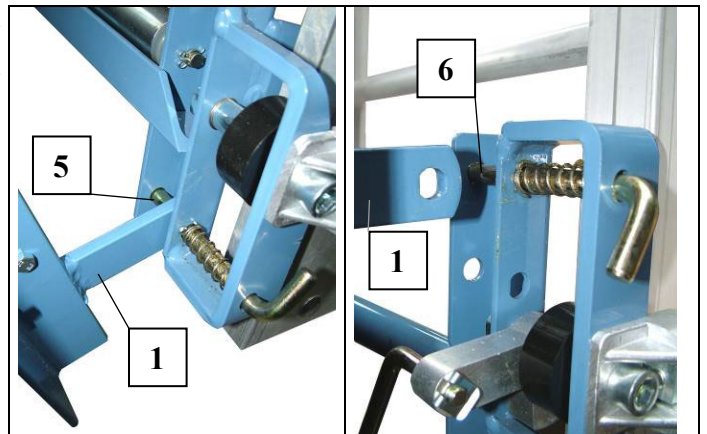

Fig. 43 Assemble universal platform
- Hook vario-platform (like the universal platform) to the lower spring catches on the sliding carriage and secure on both upper spring catches (see Fig. 43).
- Remove support latch (4).
- Pull telescopic tube (8) out of the locking screw (9) and unfold.
- Secure telescopic tube (8) again.